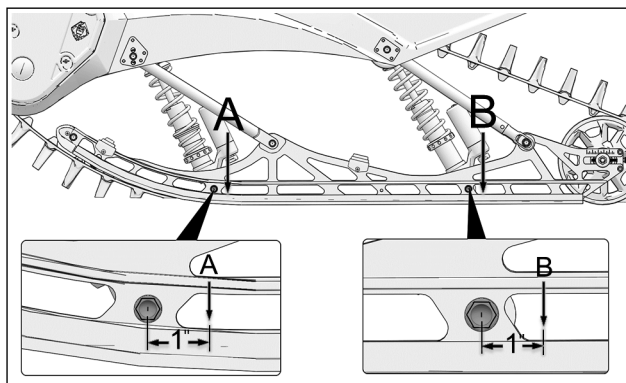

Figure 30
Front Measurement Point (A): Measure distance between top of rail slide and the ground, at 1.00" (25mm) back of front shock lower mounting bolt. Figure 30.
Back Measurement Point (B): Measure distance between top of rail slide and the ground, at 1.00" (25mm) back of back shock lower mounting bolt. Figure 30.